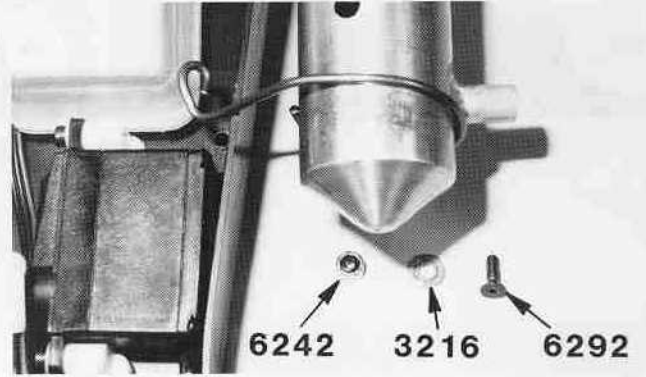

Fig. 284
□ **Figs. 284 & 285** Now remove the #6292 4-40 x 3/8" FHSScrew, one #3216 4-40 steel washer, and one #6242 4-40 locknut from the muffler bag of the engine accessory pack. Next rotate the muffler bracket over the edge of the chassis and move it until it lines up with the hole next to the edge of the chassis. Push the #6292 screws up through the chassis then install the bracket over the threads. Now you can install the #3216 washer and the #6242 locknut, then tighten the screw and nut.
Step 9 Push closed the carburetor throttle pivot arm on the engine (by hand if necessary, fig. 284). With the throttle closed, adjust the outside collar on the throttle rod so that there is a gap of 1/16" between the #7557 aluminum throttle pivot and the collar. Now squeeze and release the throttle trigger on the transmitter. We need to adjust the inside collar (next to the spring) so that when we let off on the throttle trigger the spring is tight enough to close the carburetor. If it does not fully close the carb, move the collar next to the spring so that you compress the spring more. Get the spring set so it just closes the carburetor but you do not want it any tighter than this. If there is any excess throttle rod sticking out past the outside collar, cut it off, but leave about 1/32" past the collar.